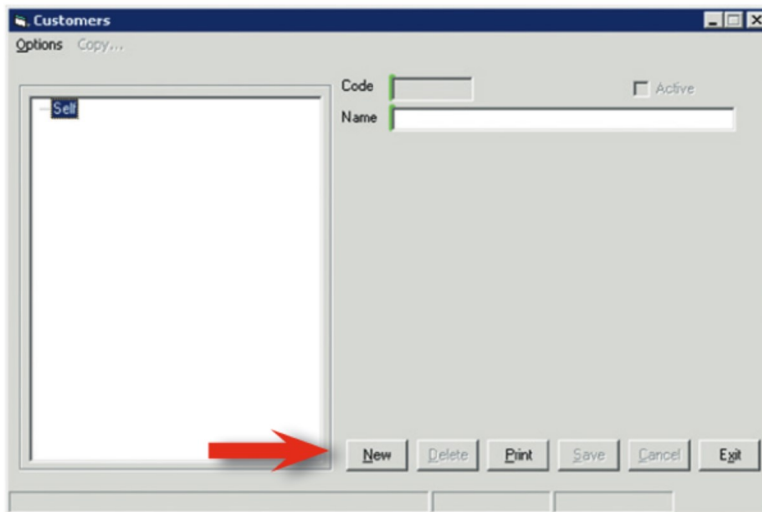

Figure 20. Customers dialog.
Internal or external, one or many, you need to maintain information about your customers. You can add and modify customer information using the **Customers** dialog (see Figure 20). To access the dialog open **EasyPath>A data entry task>Customers**.
2. Click the **New** button to open a blank form (see Figure 20).
2. Select a customer in the *Customers* dialog (see Figure 20).